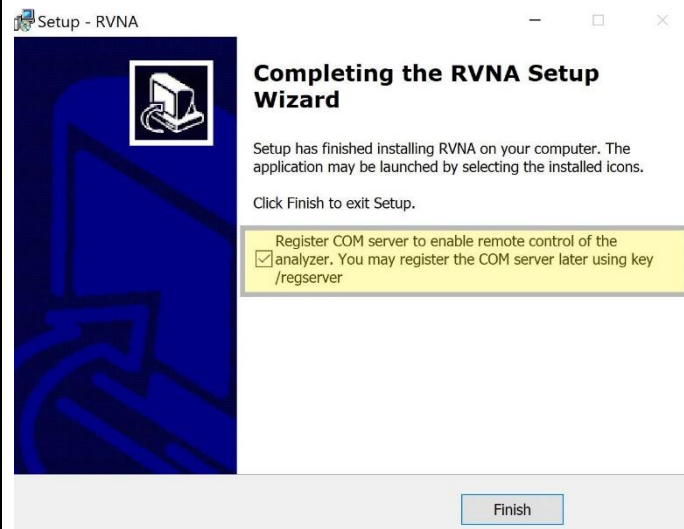

Figure 2. Registration of RVNA
12. Following setup file extraction, a new window will appear with a checkmark option asking to register the COM server to enable remote control of the R60 analyzer. ****IT IS VITAL THAT THIS FEATURE BE ENABLED**** Unchecking this box will require a full reinstallation of RVNA software for successful operation of measurement software. (Figure 2.)